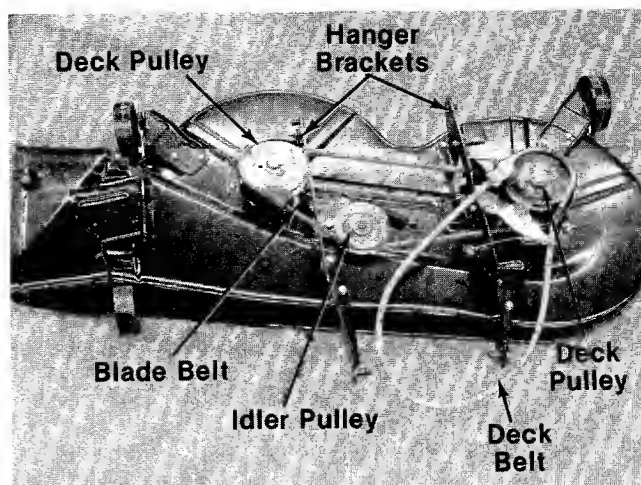

FIGURE 36.
4. Push the idler pulley inward towards the center of deck and slip the blade belt off of idler pulley. See figure 36.
6. Slide the blade belt off the deck pulleys and slip underneath the hanger brackets. See figure 36.